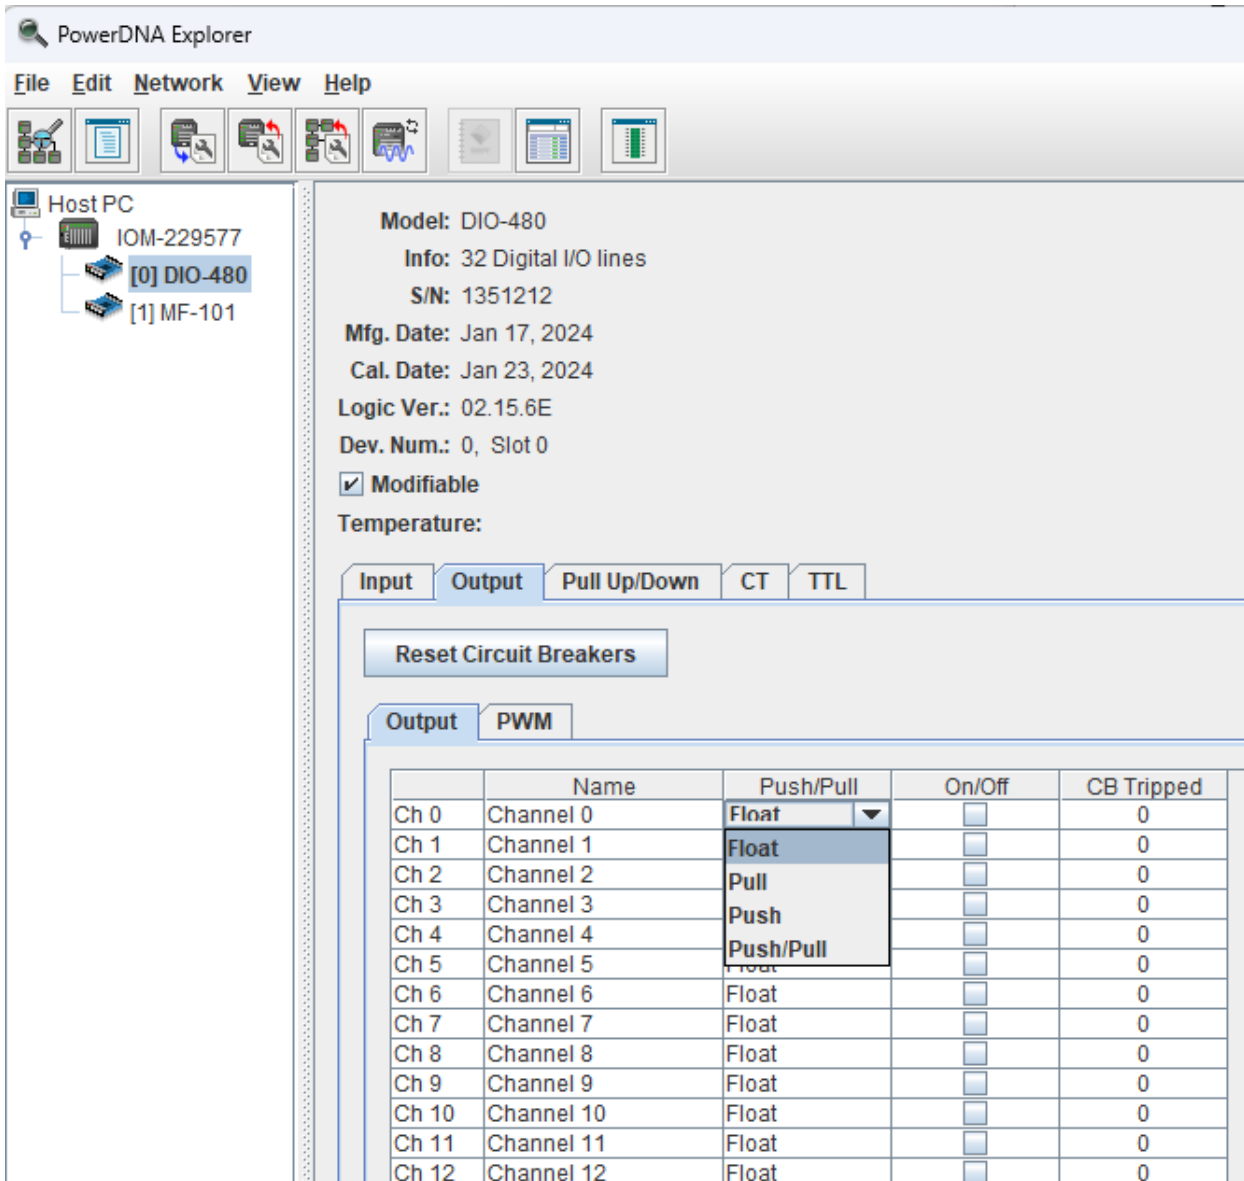

Figure 3-3 PowerDNA Explorer Output Tab, Output Subtab
3.3.1 Write to Digital Output The Output subtab (**Figure 3-3**) displays the following columns: